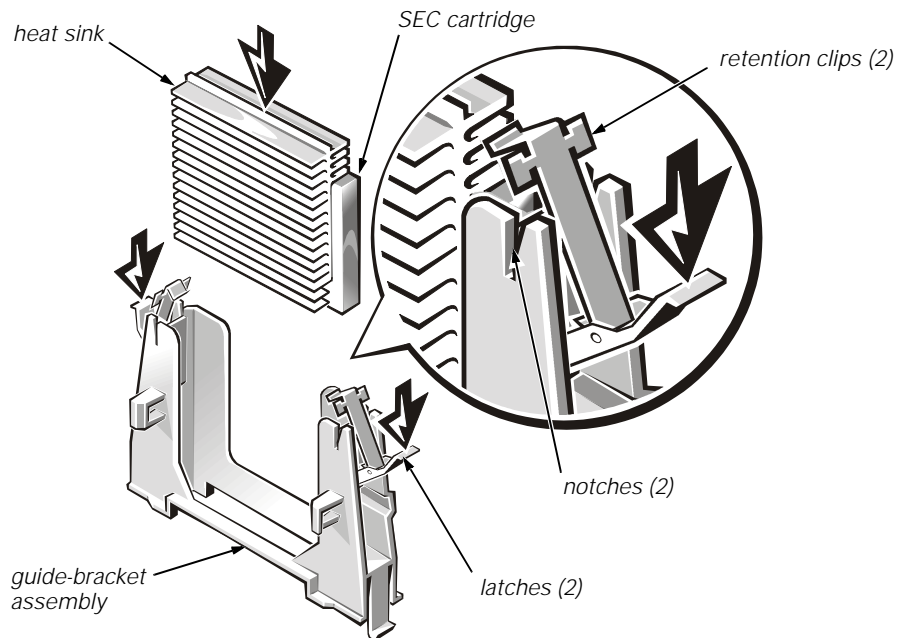

Figure 2. Installing a Microprocessor or Terminator Card
2. Place the retention clips on each end of the guide bracket in the notches on the ends of the guide bracket (see Figure 2), then close the two latches to secure the microprocessor or terminator card in the bracket.